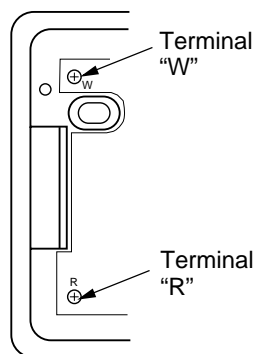

Figure 36 - Thermostat Base Terminal "W" and "R"
- Connect one bare wire end to each terminal ("W" and "R") of the thermostat base (see Figure 36).